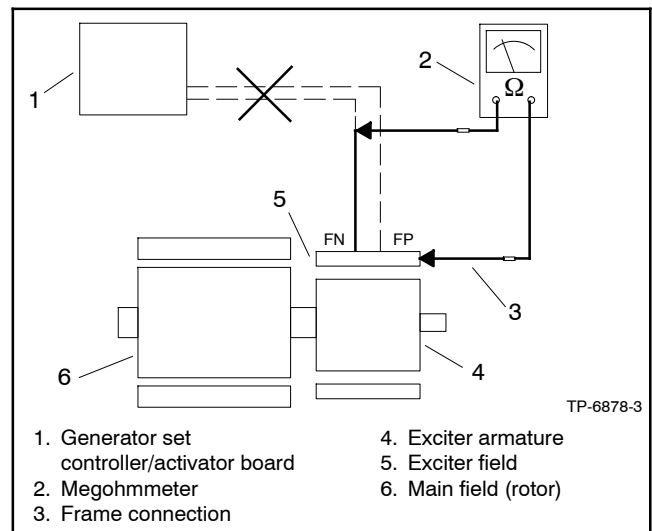

Figure 3-4 Megohmmeter Connections on the Exciter Field
5. Check the exciter field for a short-to-ground condition. Use a megohmmeter to apply 500 volts DC to the FN or FP lead and the exciter field frame. See Figure 3-4. Follow the megohmmeter manufacturer's instructions for megohmmeter use.